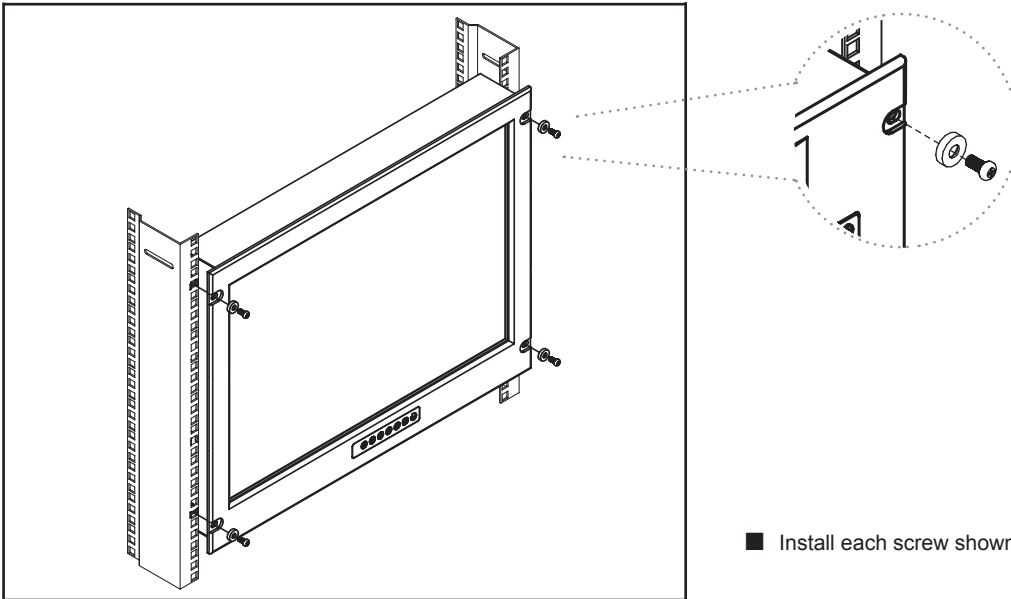

Figure 1.
■ Install each screw shown in Figure 1.